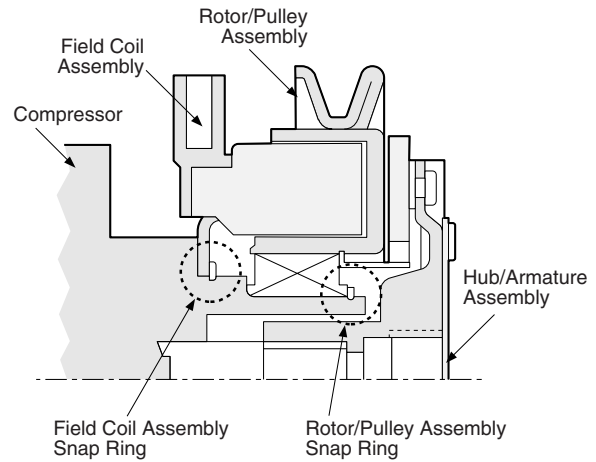
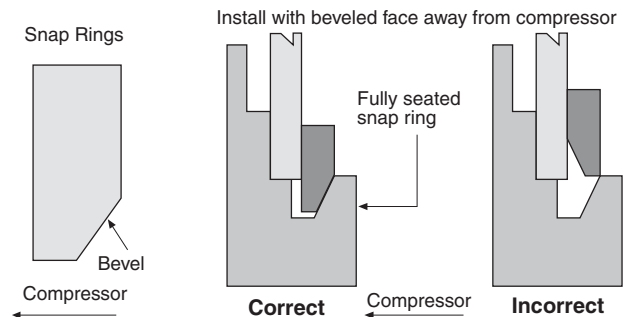

Figure 2
Figure 3
*For a 6C17 Compressor, Install the field coil assembly (2) with the retaining ring (3) provided with the new Warner clutch. Discard the old retaining ring.
With a snap ring pliers, spread the field coil snap ring (3) and insert it into the groove on the compressor nose. (See Figure 2) To assure assembly retention, ring bevel must face away from the compressor. (See Figures 3 and 4)
- A. Install the rotor/pulley assembly (4) onto the compressor (1). If the rotor/pulley does not slide on easily check the compressor nose for nicks or burrs and remove. If the rotor/pulley still does not slide on easily, rock the rotor/pulley back and forth by hand until it slides completely onto the compressor (1).
- B. Make sure there is no interference between the field coil (2) or lead wires and the rotating rotor/pulley (4).
- C. Install the rotor/ pulley snap ring (5). With a snap ring pliers, spread the snap ring and insert it into the groove on the compressor nose. (See Figure 2) To assure assembly retention, the snap ring bevel must face away from the compressor. (See Figures 3 and 4)